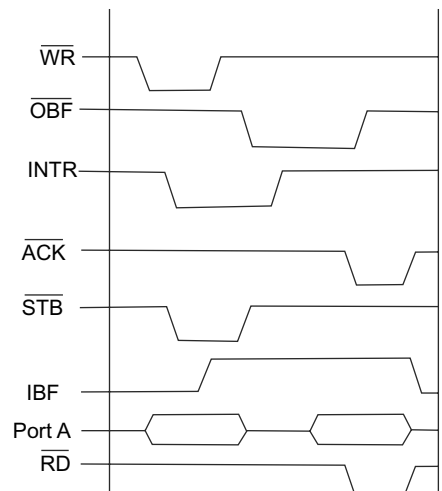

Fig. 8.71 Timing diagram of Mode 2
- INTE 2 (The INTE Flip-Flop associated with IBF) Controlled by bit set/reset of PC₄. The timing diagram of Mode 2 operation of 8255 is depicted in Fig. 8.71.